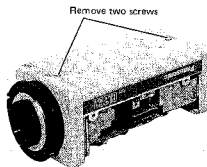

Fig. 2-3
- Remove two screws fixing bottom cover and remove bottom cover by pulling it down ward. (Fig. 2-3)